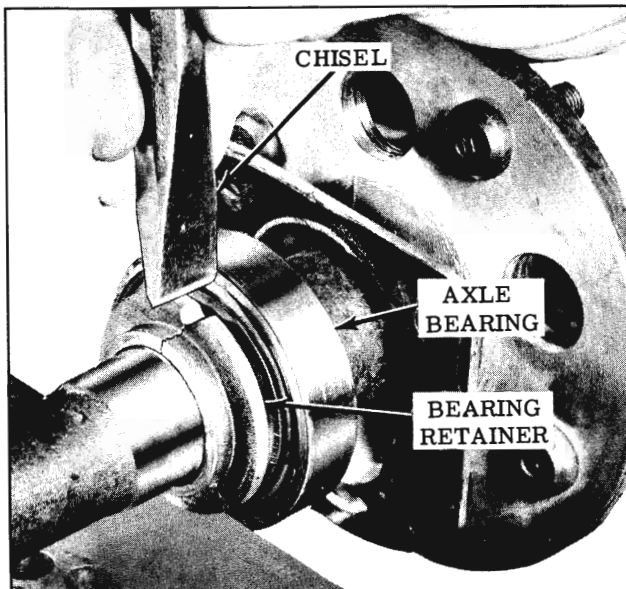

Fig. 6-133 Removing Axle Bearing Retainer
1. With axle shaft removed from housing, split retainer with a chisel as shown in Fig. 6-133.